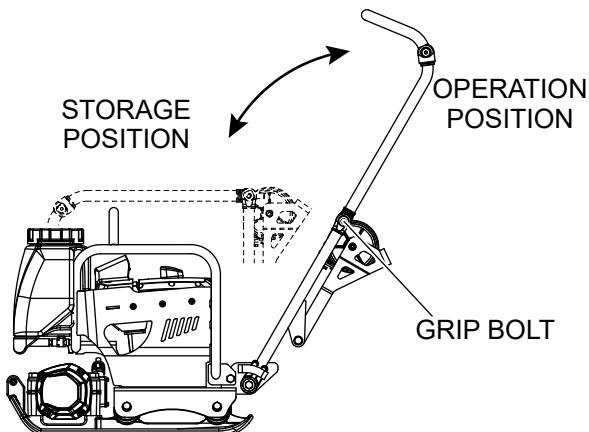

Figure 5. Handle Position
1. Check the handle to make sure it can be correctly changed to operation position from storage position and back (Figure 5).